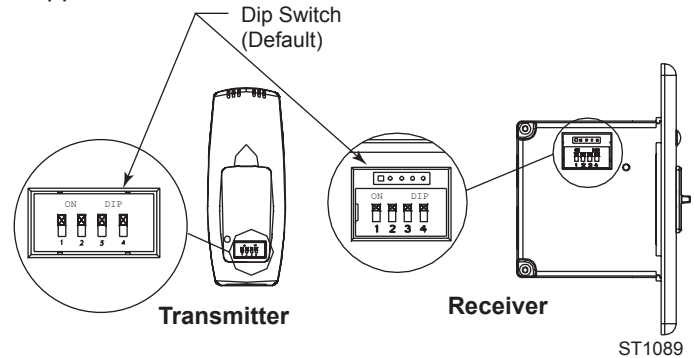

Fig. 59 The switches on the transmitter and receiver must match.
1. Slide the code switches on the transmitter and receiver to choice of ON or OFF position. Switches #1, #2, #3 and #4 are preset to “ON” for both the transmitter and receiver. (Fig. 59)